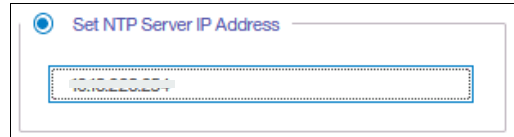

Figure 7-43 Set NTP Server IP Address window
- If you are using an NTP server, select **Set NTP Server IP Address** and then enter the IP address of the NTP server, as shown in Figure 7-43 on page 271.